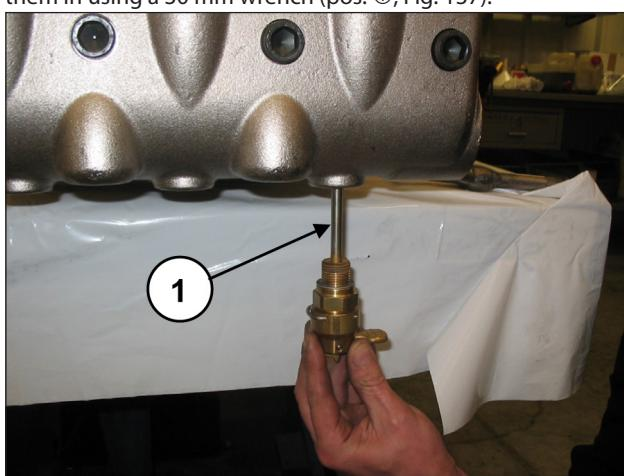
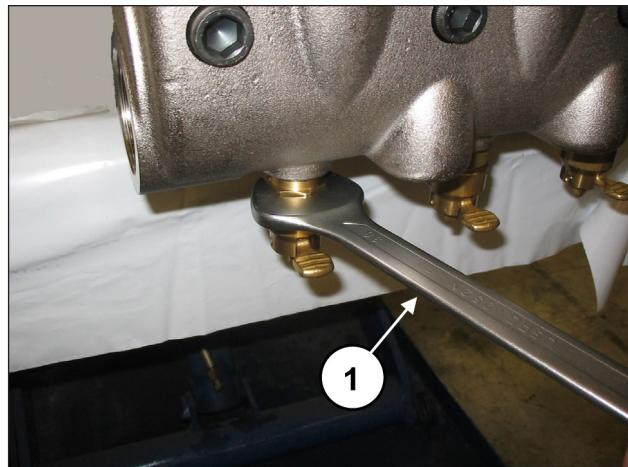

Fig. 136
Fig. 137
Apply the valve opening devices (pos. ①, Fig. 136) and screw them in using a 30 mm wrench (pos. ①, Fig. 137).